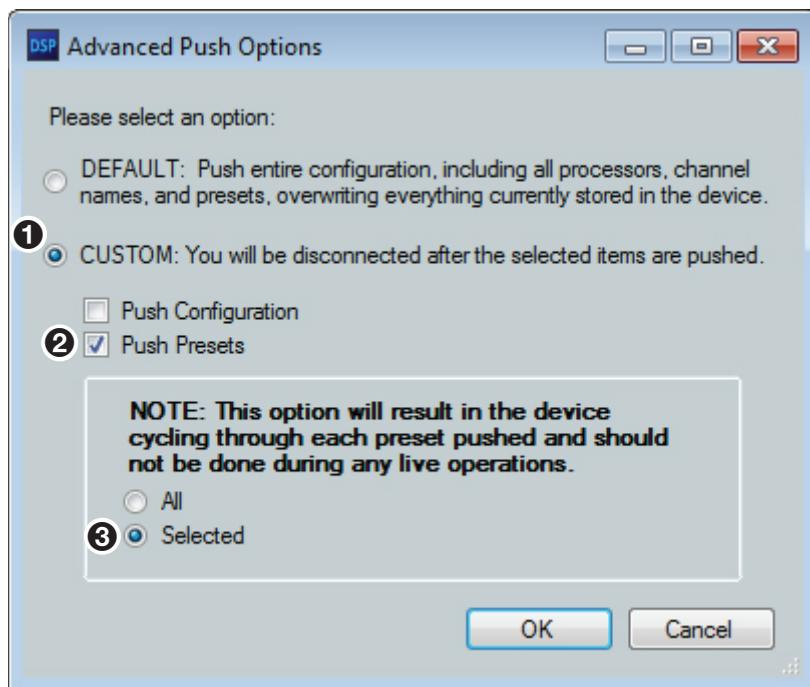

Figure 80. Advanced Options for Pushing Selected Presets
3. In the Advanced Push Options dialog box, select the **Custom** radio button (see figure 80, **①**).
4. Select the **Push Presets** checkbox (**②**).
5. Select the **Selected** radio button (**③**).